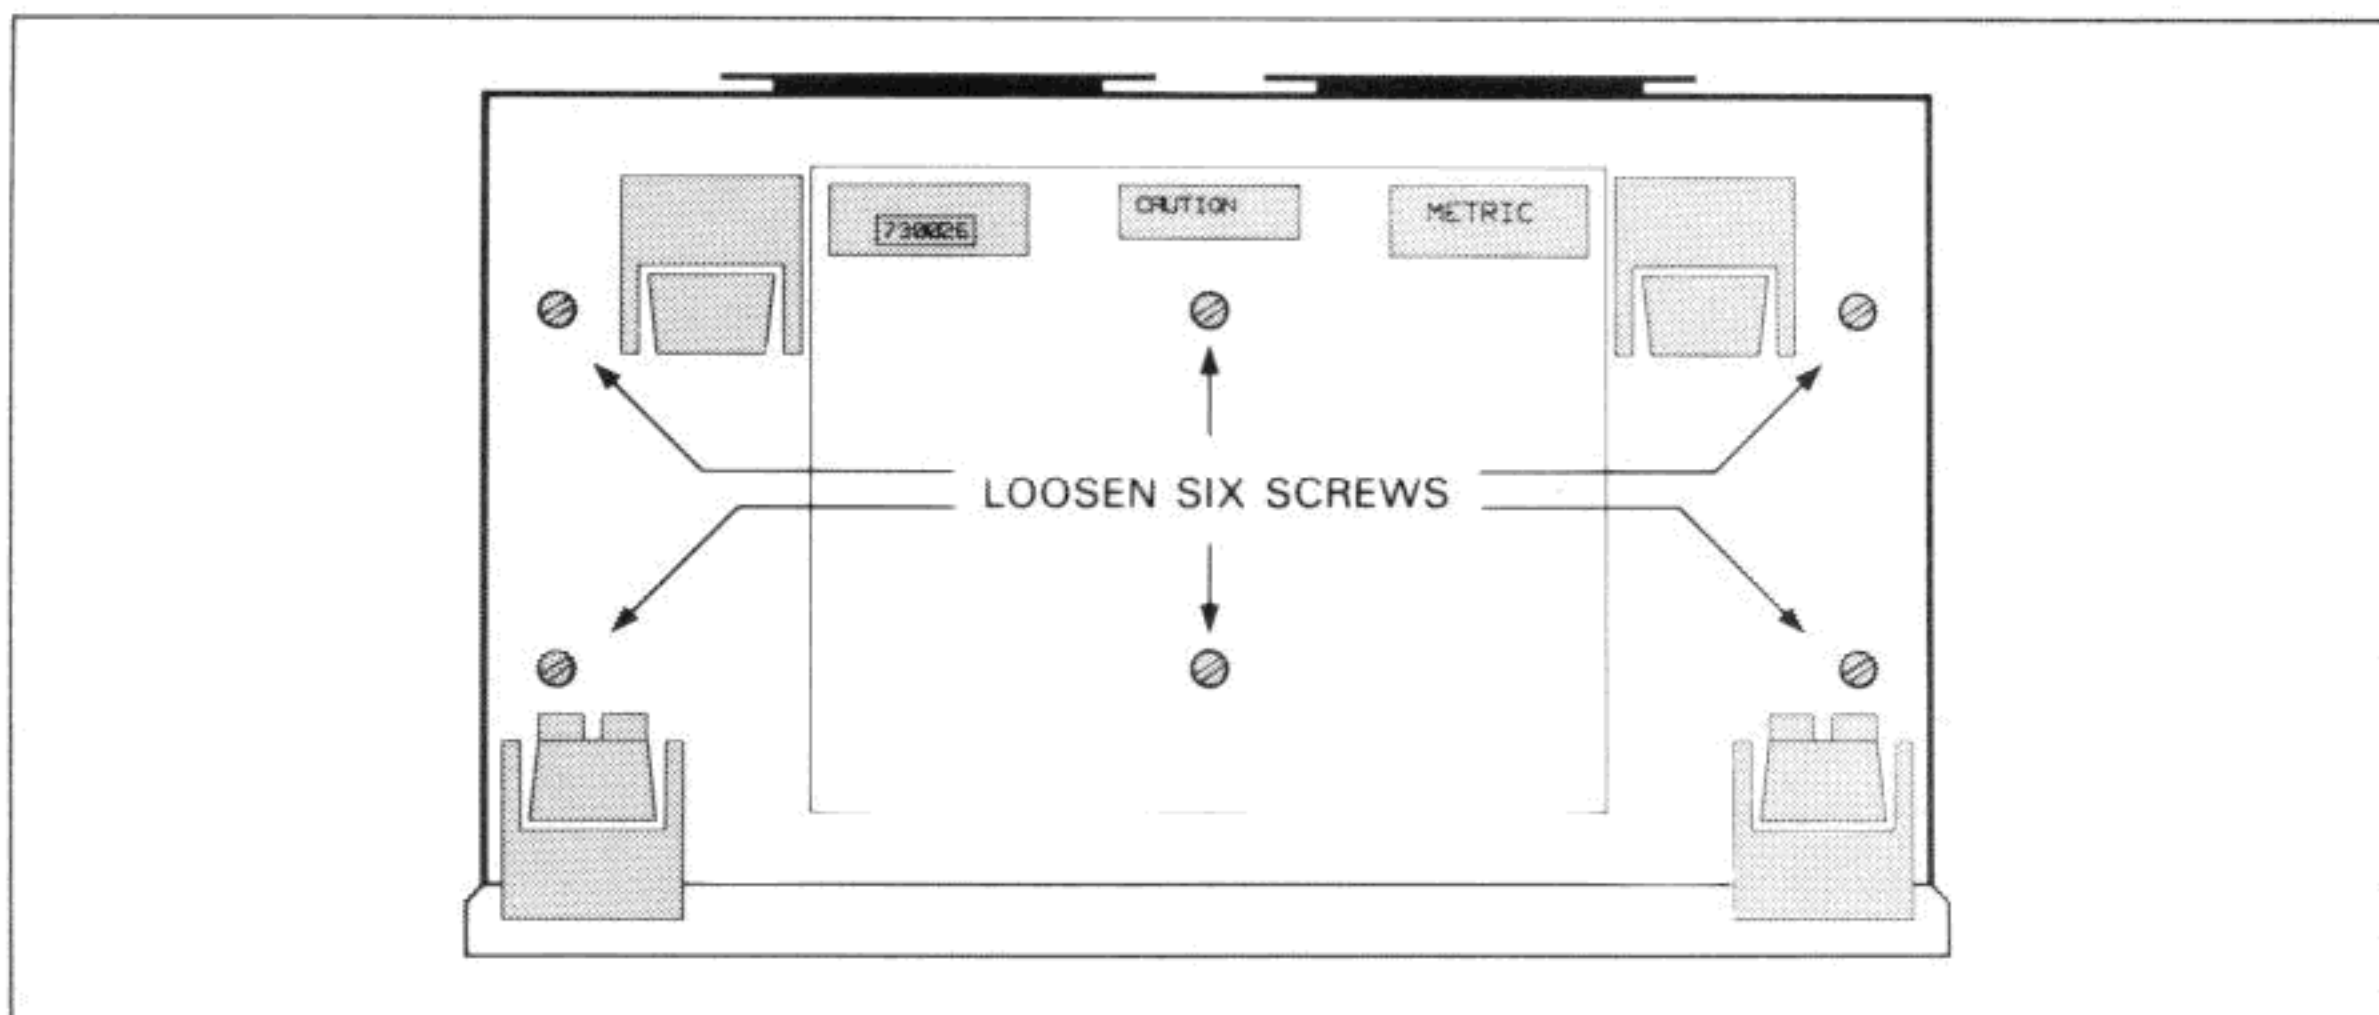

Figure 5-8-1. Loosen Bottom Screws
- b. Turn the instrument upside down. This is preferably done on top of a protective mat to reduce the possibility of scratching or marring the instrument case. Use a static safe mat to prevent any buildup of static electricity. Refer to Figure 5-8-1 and loosen the six screws on the instrument bottom.